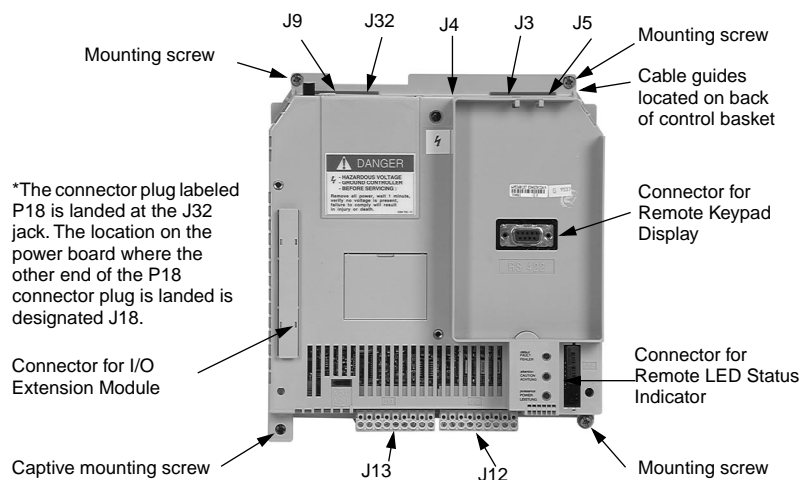

Figure 4.3.9: Control Basket Connector Locations
3. Carefully loosen and disconnect the P9 and P32 connector plugs at the top left of the control basket (see Figure 4.3.9 on page 4.3.15). *Do not pull the connector loose by the wires.*
4. Carefully loosen and disconnect the J12 and J13 connectors located at the bottom of the control basket (see Figure 4.3.9). *Do not pull the*
10. Place the new control basket in the drive controller. Using a flat blade screwdriver or hex key wrench, tighten the one captive screw. Install and tighten the three other corner screws (see Figure 4.3.9). Torque the screws to 18.0 lb-in (2.0 N•m).
12. Snap the two connectors J12 and J13 into place (see Figure 4.3.9).